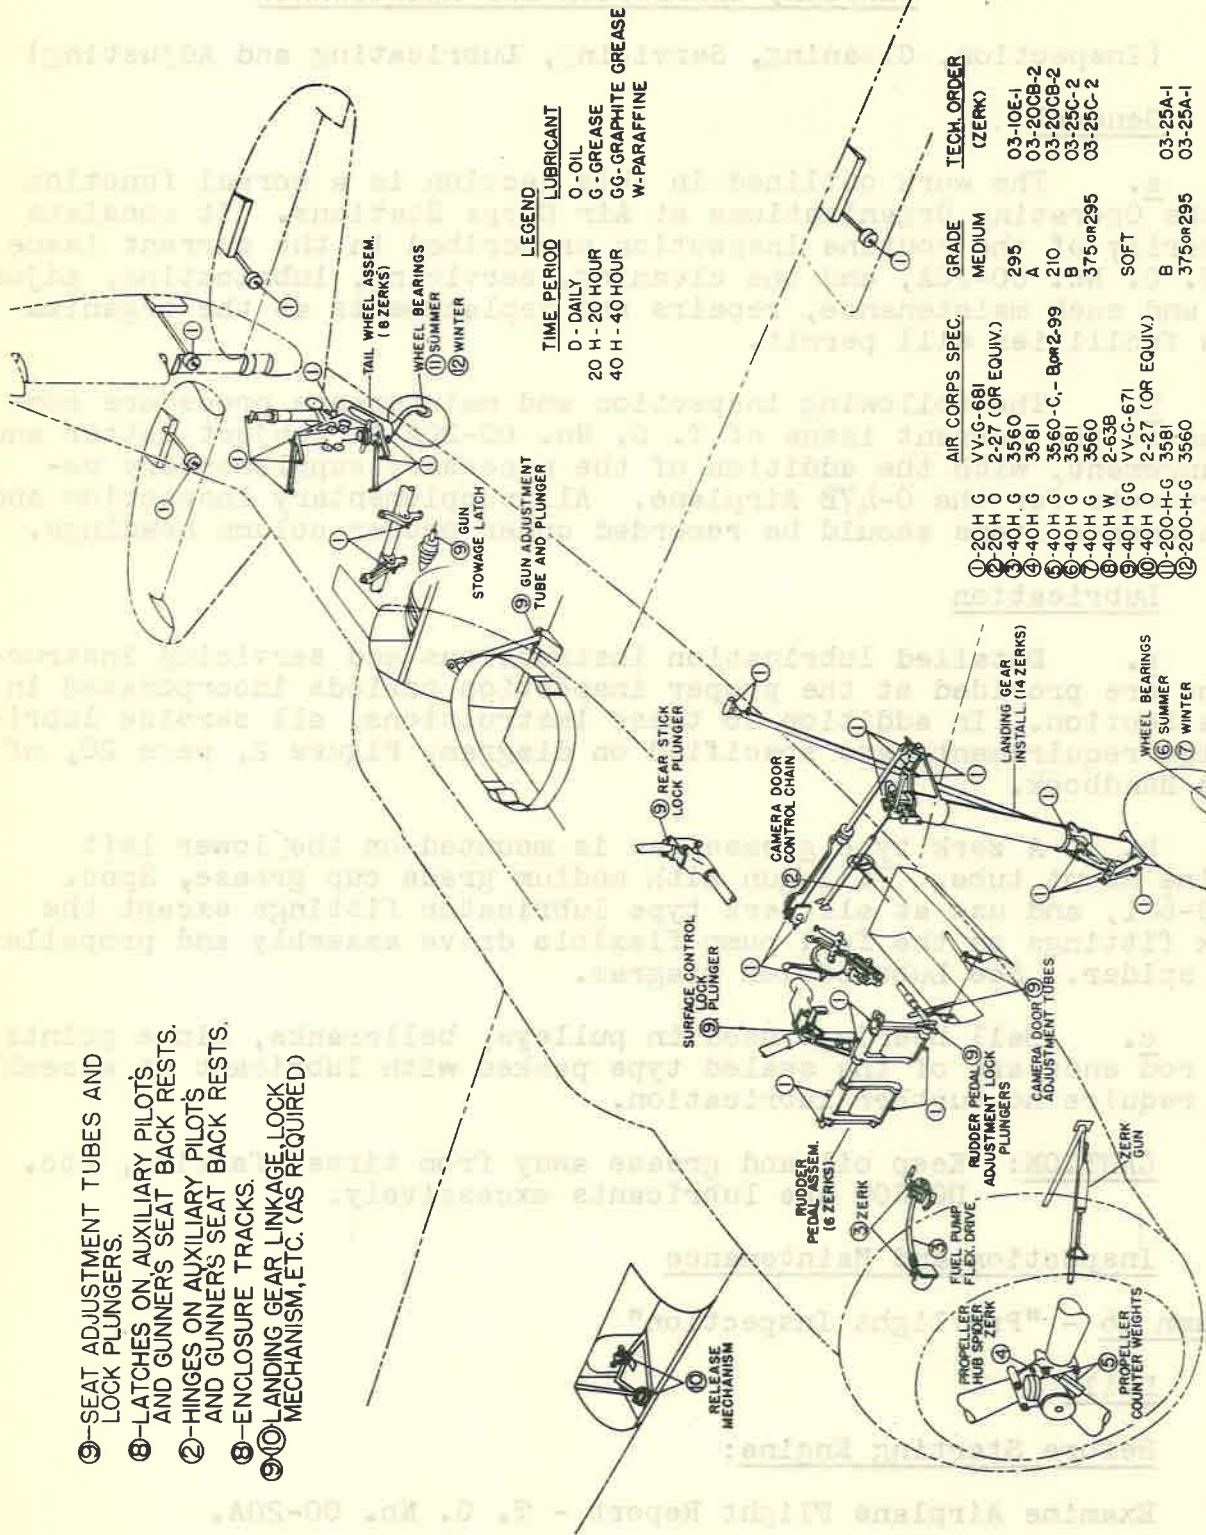

FIGURE 2 - LUBRICATION DIAGRAM
a. Detailed lubrication instructions and servicing instructions are provided at the proper inspection periods incorporated in this Section. In addition to these instructions, all service lubrication requirements are specified on diagram, Figure 2, page 20, of this Handbook.